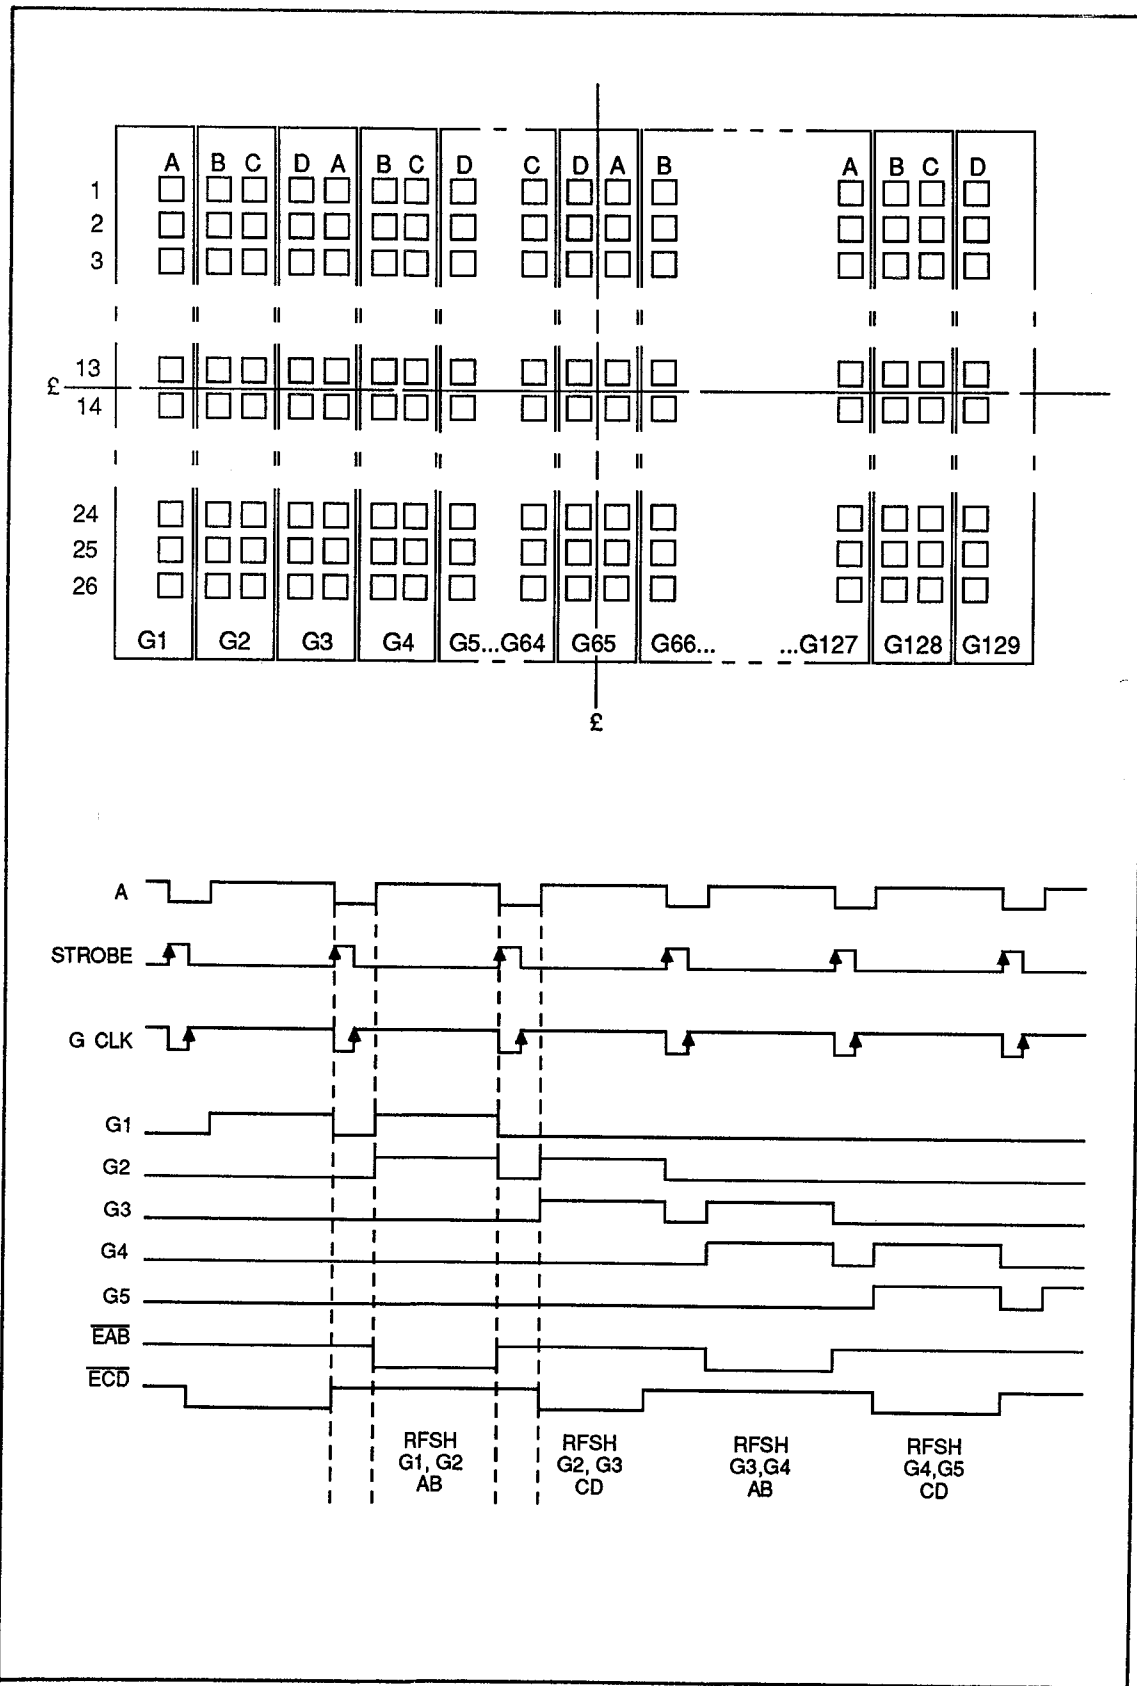

Figure 3-4. Vacuum Fluorescent Display
The vacuum fluorescent tube grids are driven in pairs. Grid input (GI) is held high for two clock periods at the beginning of the refresh cycle. The grid drivers are shift registers that are clocked to the next set of grids with each refresh scan. The grids are driven in pairs, G1 and G2, followed by G2 and G3, and so on. This scheme is illustrated in Figure 3-4.